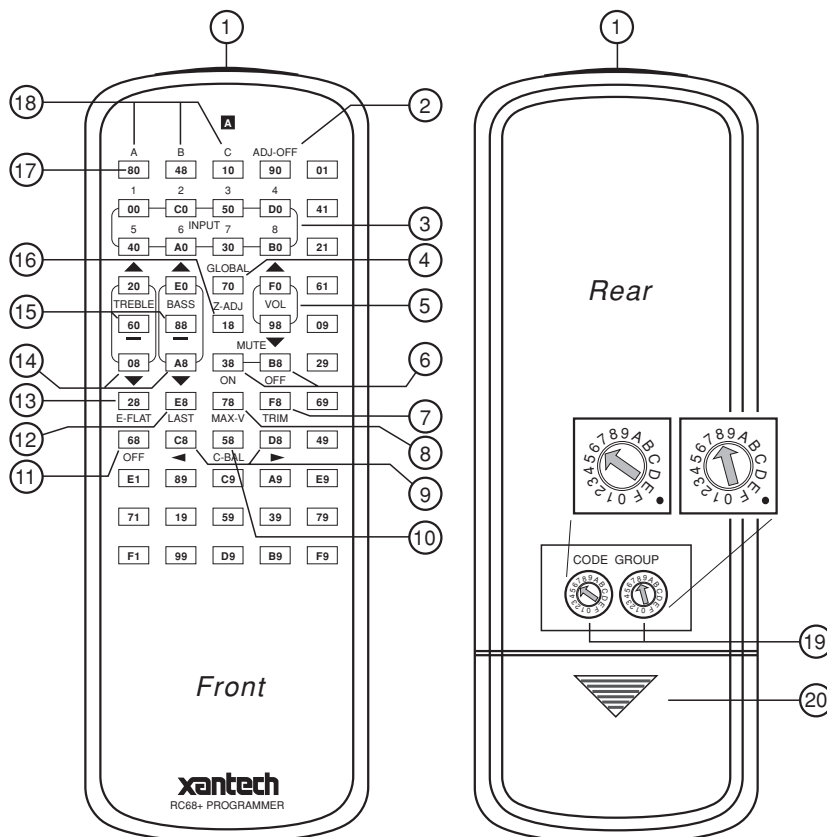

FIG. 3 RC68+ Itemized Functions and Features
- Turn the remote over and locate a Code Group number that is different than any other Xantech model used in the same system (i.e., 48, D0, C0, etc.). These numbers are printed on the **front face** of each RC68+ button! (See item #17, **Fig. 3**).